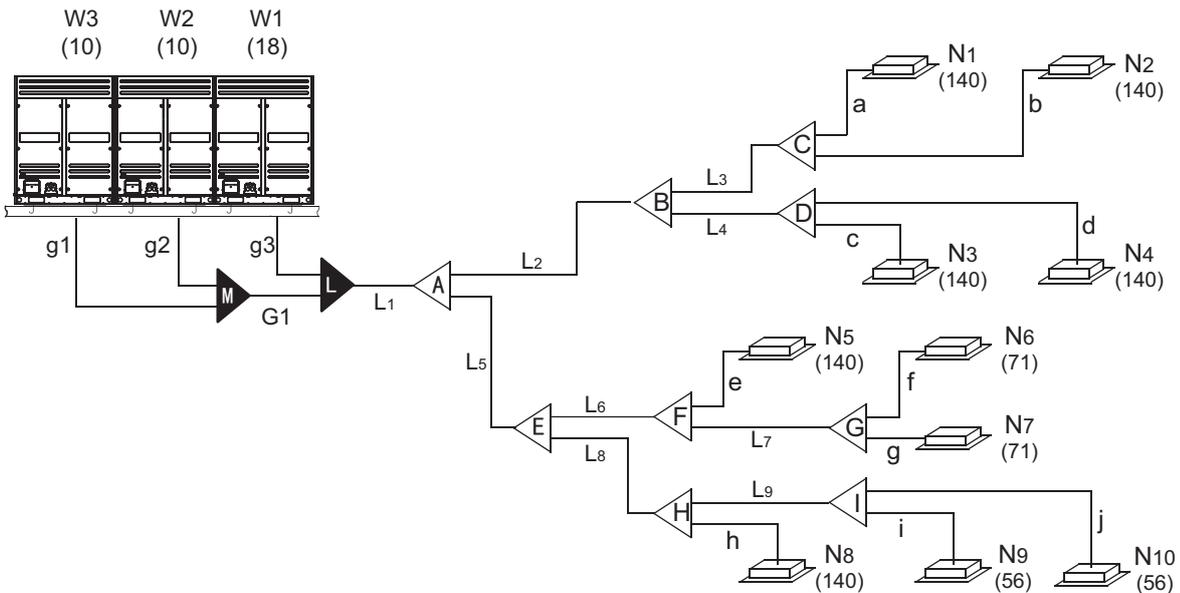

Fig.5-3
Pipe name	Code (As per the Fig. 5-3)
e.x.1: Refer to Fig.5-3 , the capacity of downstream units to L2 is $140 \times 4 = 560$, i.e. the gas pipe for L2 is $\Phi 28.6$, liquid pipe is $\Phi 15.9$.